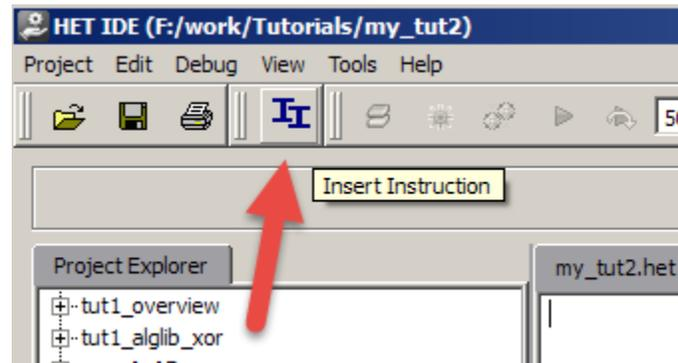

Figure 11. Insert Instruction Tool
- Press Next and your project will be created with an empty HET assembly source file named my_tut2.het. To begin adding code, press the Insert Instruction toolbar button (see Figure 11).